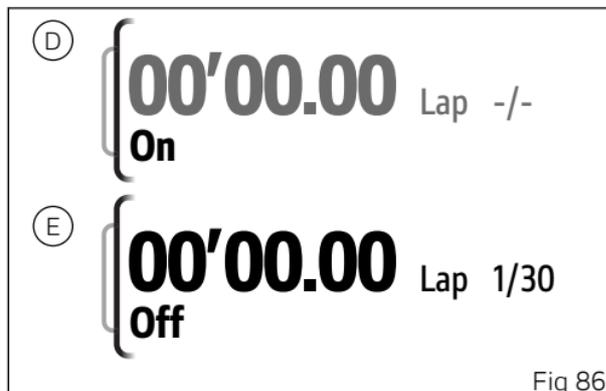

Fig 86
- If the function is disabled, "Off" is shown with the stopwatch (D, Fig 86); press ENTER button (3) to enable the function.
- If the function is enabled, "On" is shown with the stopwatch and indication of the available laps (E, Fig 86); press ENTER button (3) to disable the function.